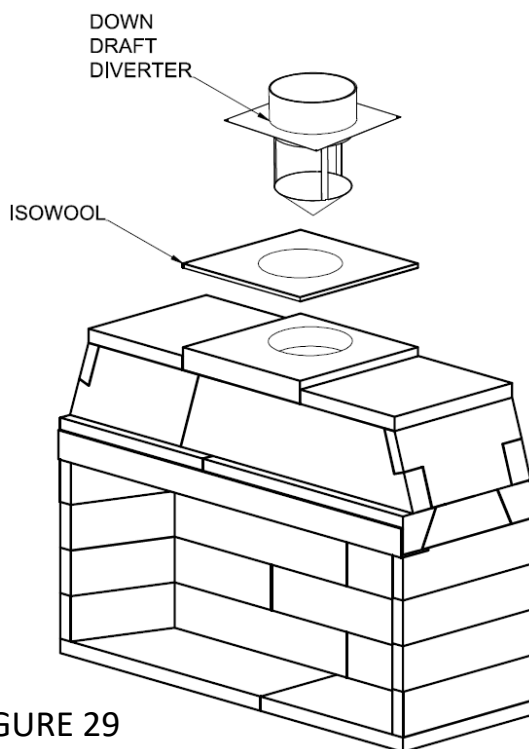

FIGURE 29
- 2) Center the Isowool blanket over Isokern Top Plate's outlet and trace the outlet's outline with a pen or marker. Cut a hole in the blanket along this outline to match the hole in the Isokern top plate. Center the cut Isowool blanket over the Isokern Top Plate flue opening, then center Anchor Plate over the Isowool blanket (**Figure 29**).
- 3) Secure the Anchor Plate with four (4) masonry anchors.